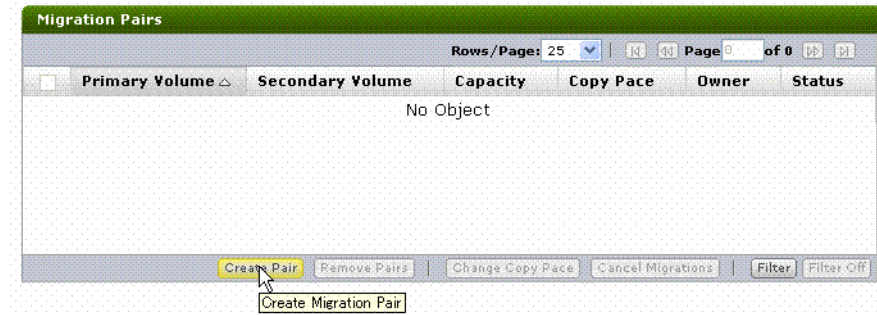

Figure 11-18: Before pair creation
4. Click **Migration Pairs**. The Migration Pairs screen displays as shown in Figure 11-18.